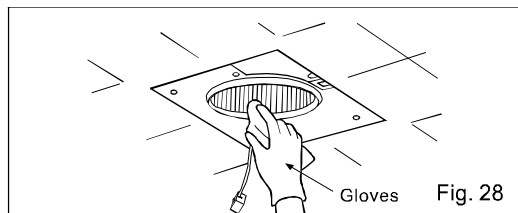

Fig. 28
5. Using a cloth dampened with kitchen detergent, remove any dirt from fan body. Wipe dry with new cloth. (Fig. 28)